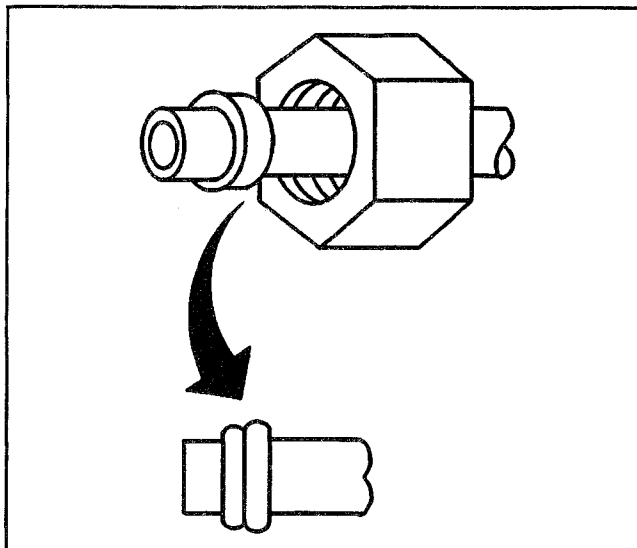

Figure 12—Proper O-Ring Installation
- Remove sealing caps from subassemblies just before making connections for final assembly. Use a small amount of clean 525 viscosity refrigerant oil on all tube and hose joints. Use new O-ring seals dipped in 525 viscosity refrigerant oil when assembling joints. The oil will aid in assembly and help to provide a leakproof joint. O-ring seals and seats must be in perfect condition because a burr or a piece of dirt can cause a refrigerant leak. Refer to Figures 12 and 13 for additional information.